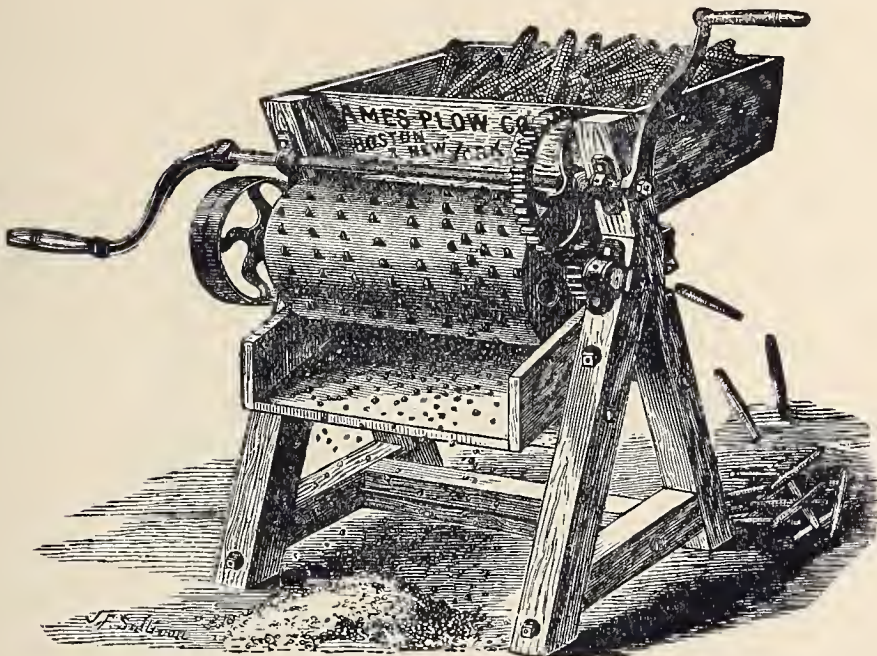

Fig. 408. — Virginia Corn-Sheller.
*The Virginia Corn-Sheller*, represented by *Fig. 408*, has been in use many